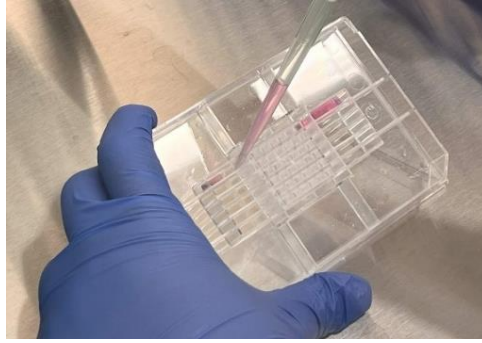

Figure 2. Manual dispensing of a cell growth medium in reservoirs of the 36PerfusionPlate.
2. Dispense 600 μL of a cell growth medium in each reservoir of a 36PerfusionPlate (1200 μL cell growth medium per fluidic channel) and place it on a flat surface for 1 - 2 minutes to fill all perfusion wells with the cell growth medium (**Fig. 2**). For a 144PerfusionPlate, dispense 900 μL of a cell growth medium in each reservoir (1800 μL cell growth medium per fluidic channel). **Note:** In case any perfusion wells are not filled with the cell growth medium, manually dispense 60 μL of the growth medium in the empty perfusion wells.